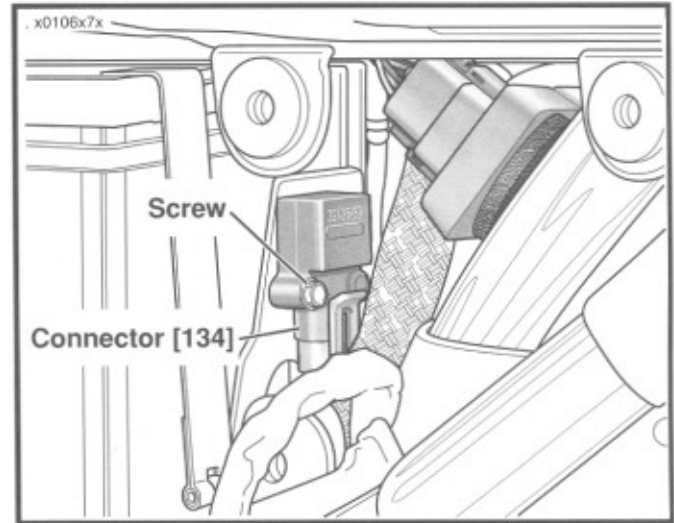

Figure 7-29. Bank Angle Sensor
2. See Figure 7-29. Locate Bank Angle Sensor on battery box. Remove screw.